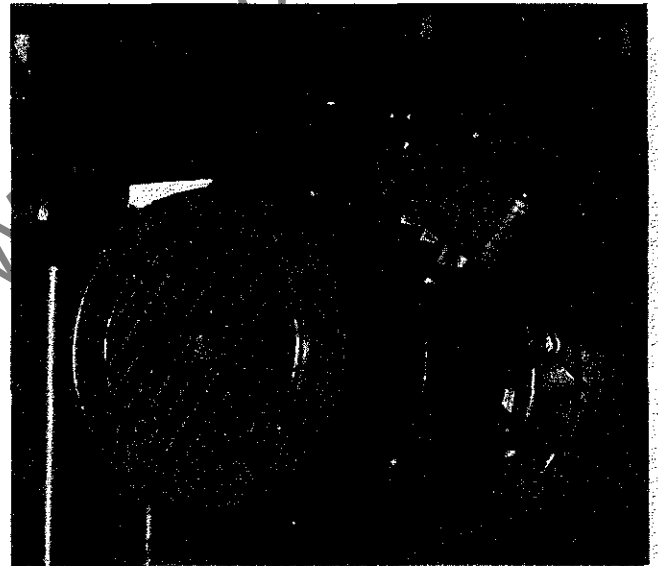

FIG 26
4. Loosen 2 - M12 nuts "A", FIG.26, and M12 locknut "B".
3. Loosen 2 - M12 nuts "A", FIG.26.